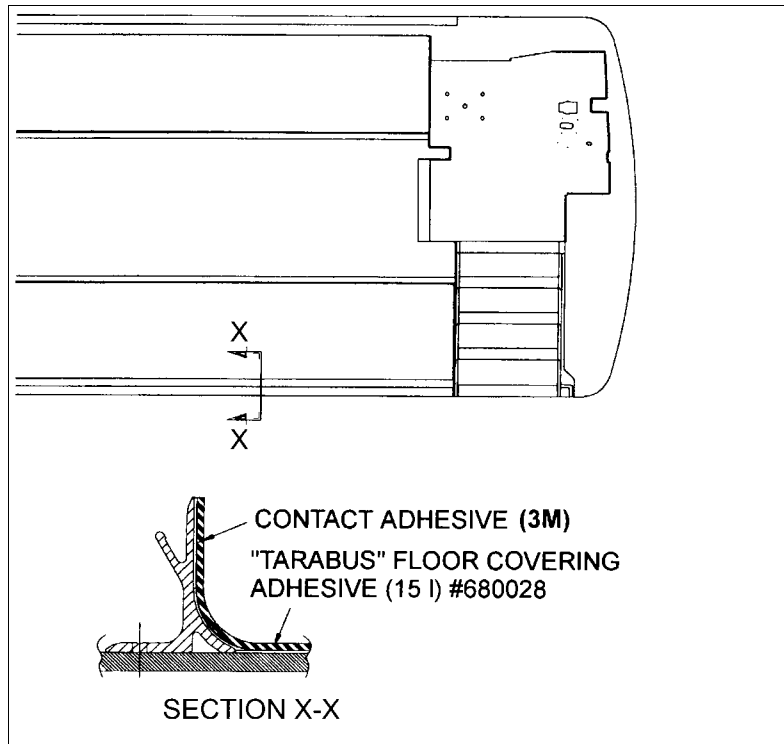

FIGURE 157: TARABUS FLOOR COVERING ADHESIVE APPLICATION
6. Apply floor covering adhesive (680028) onto plywood using a serrated spreader with 1/8-inch serration. If required, apply contact adhesive (3M) (684655 or 684654) onto aluminum molding and also onto section of floor covering, which will be in contact with molding (refer to Figure 157).